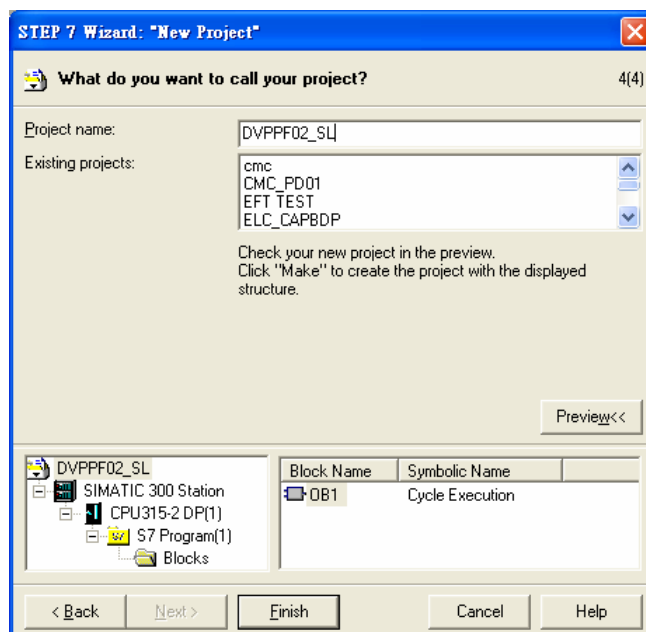

Figure 10-7
6. Enter the project name and click "Finish", as Figure 10-7.